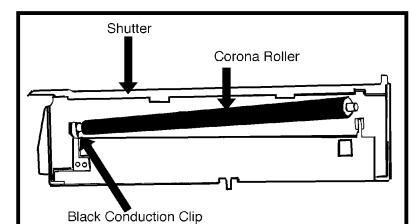

Figure 3
3. Remove the primary charge roller (PCR). Apply Anakenesis® PCR cleaner to a clean, lint-free cloth. Wipe the length of the PCR until all the residue is removed (Fig. 3). Make sure to clean the black conductive clip that holds the PCR with a cotton swab saturated with 99% IPA.